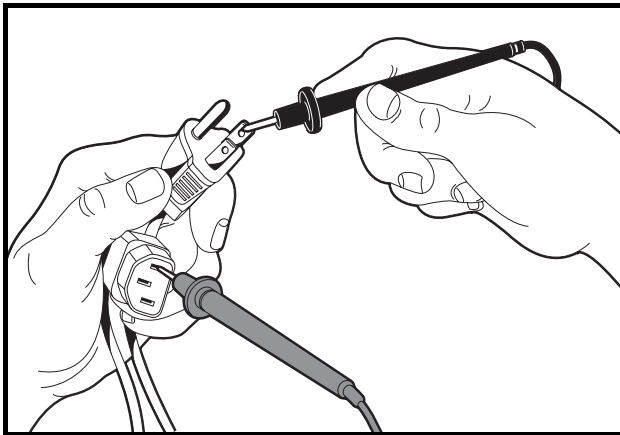

Figure 5-17 AC Cord Test
2. Using a multimeter, set for 200 ohms, place the red (+) probe into one of the side terminals in the end of the AC cord as shown (**Figure 5-17, Page 5-23**). Test for continuity on each of the flat blades and on the round pin of the AC plug. The tester should indicate continuity on only one flat blade. If any other reading is obtained, the AC cord has failed and must be replaced.